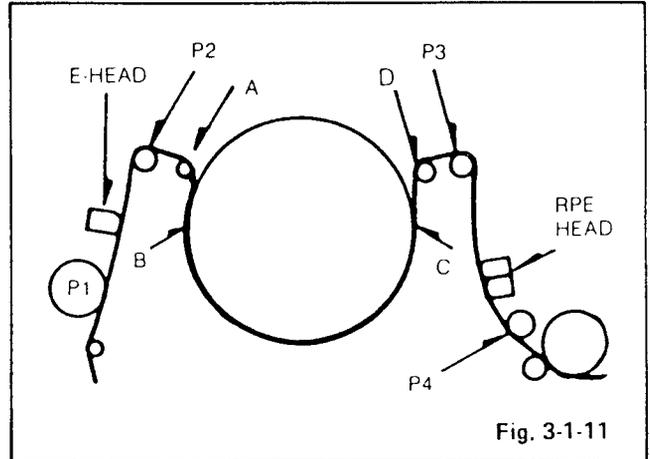

Fig. 3-1-11
f) Eject the tape by pushing the eject button, and after making the tape run, repeat the adjustment of the above steps a)-b). Especially observe in detail, the tape between P2, A, B and C, D P3 as shown in Fig. 3-1-11.
- The tape is not to be distorted or wrinkled at A.D. and B.C. which are the points leaving the drum (as shown in Fig. 3-1-11).
- Notice the tension at the upper & lower edge of P2 and A, P3 & D (as shown in Fig. 3-1-11).
- When the tilt screw (B) is turned clockwise, the screw (A) is to be turned counterclockwise, since they counteract each other at the RPE head.